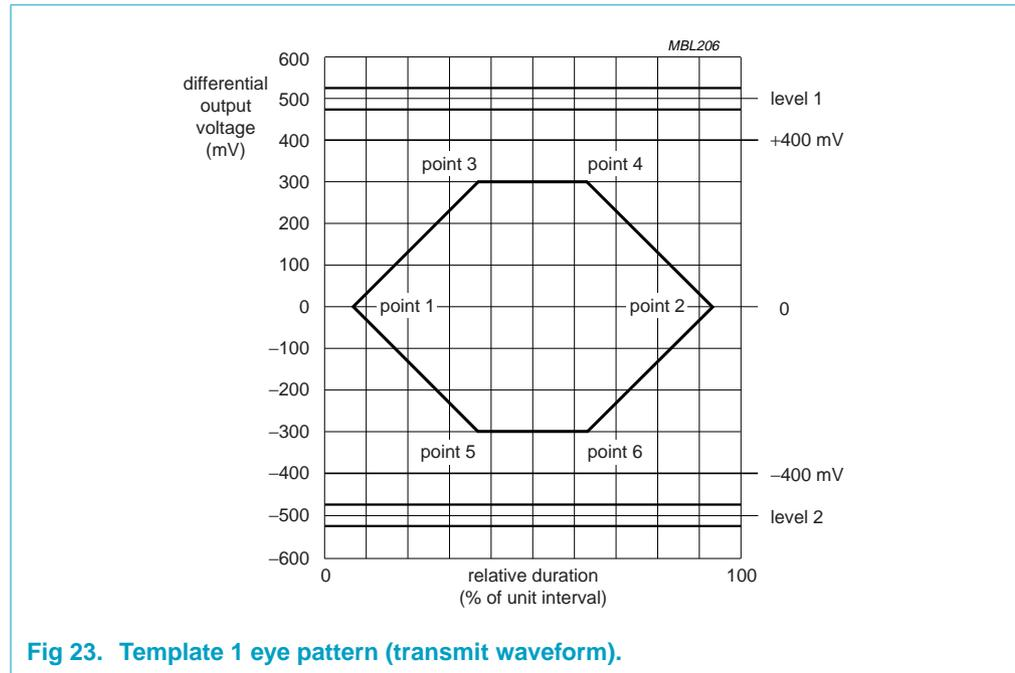

Fig 23. Template 1 eye pattern (transmit waveform).
The eye pattern in Figure 23 defines the transmit waveform requirements for a hub (measured at TP2) or a device without a captive1 cable (measured at TP3). The corresponding signal levels and timings are given in Table 15. Timings are given as a percentage of the unit interval (UI), which represents the nominal bit duration  $T_{PERIOD}$  for a 480 Mbit/s transmission rate.